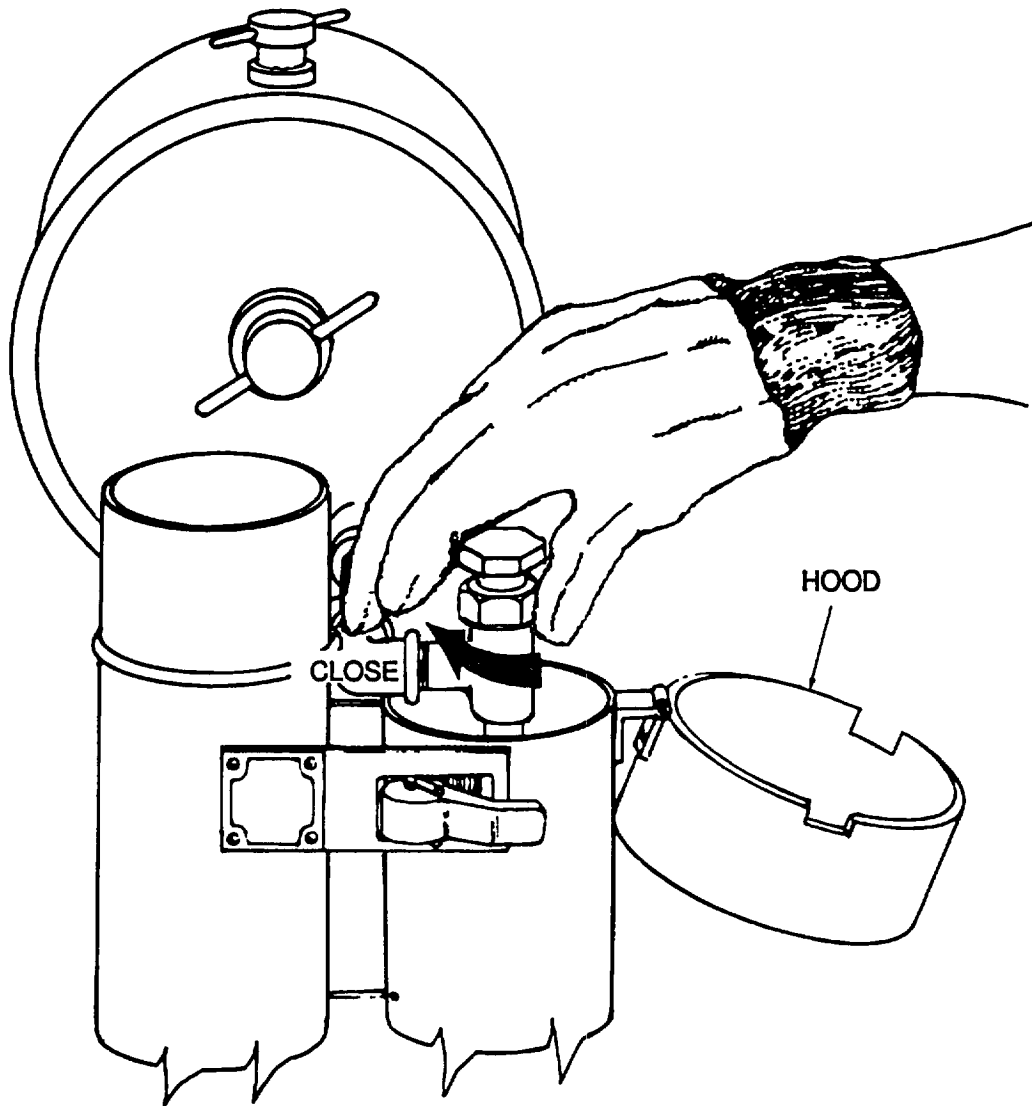

Figure 2-6. Shutting Down Heater (Closing Fuel Valve)
- (1) Open the hood and close the fuel valve (Figure 2-6).